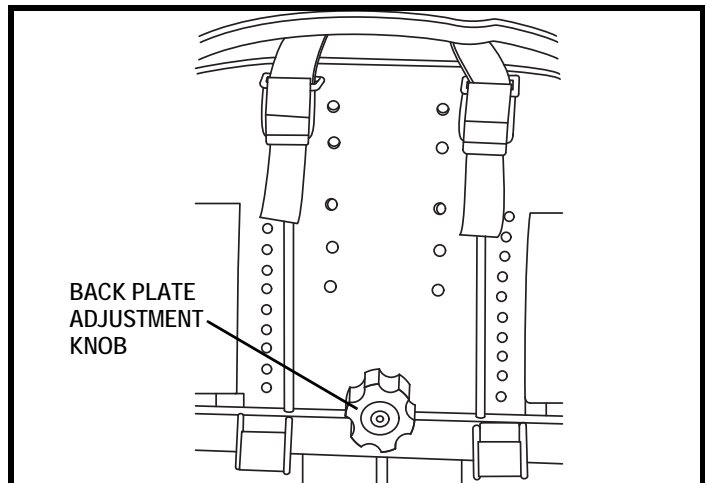

Figure 30. Kids FAST Back Height Adjustment
1. Loosen the back plate adjustment knob. **See figure 30.**